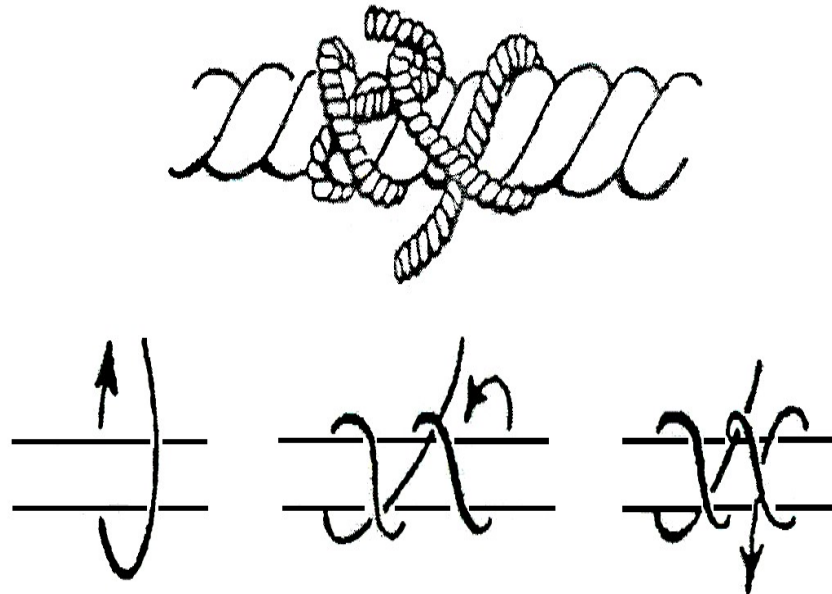

Figure 3-103
6. Tie a rolling hitch (see Figure 3-103).